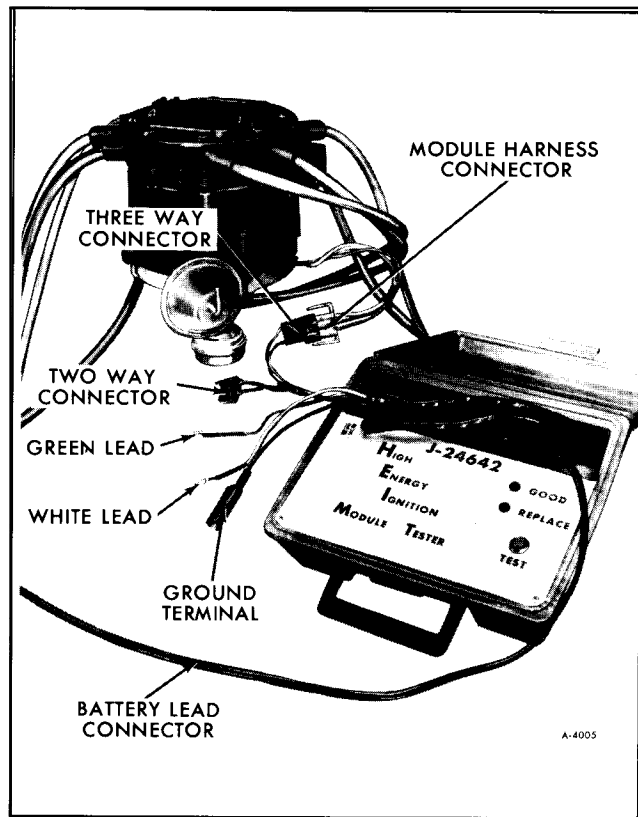

Figure 55—Test No. 1 Using Tool J-24642
a. Disconnect module harness connector from the distributor cap (figure 55).